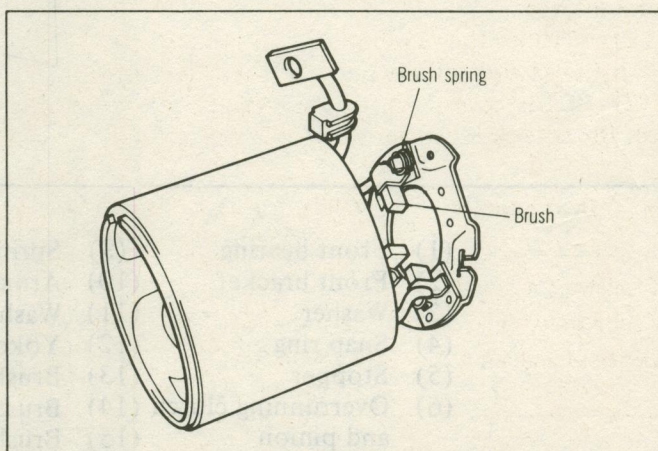

Fig. 8 Removing Brush Holder
(5) The brush holder assembly can be removed by pulling the brush out. (Fig. 8)